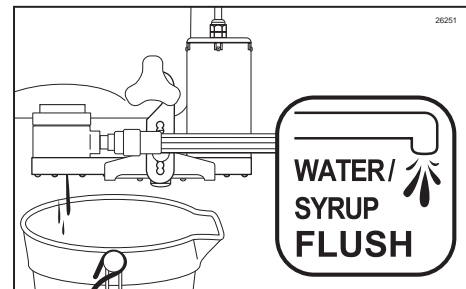

Figure 168
15. Place a container under the Injector Head to catch sanitizer solution and/or fresh product to be dispensed and press WATER / SYRUP FLUSH to prime the syrup line. (See Figure 168.)